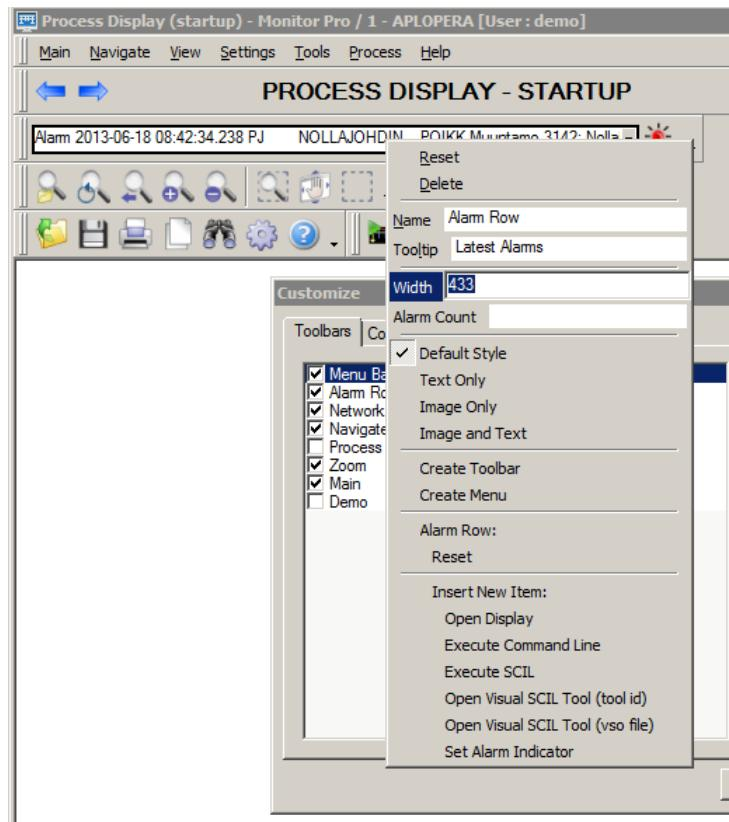

Figure 227: Setting alarm row width
3. Type in the desired width, see Figure 227.